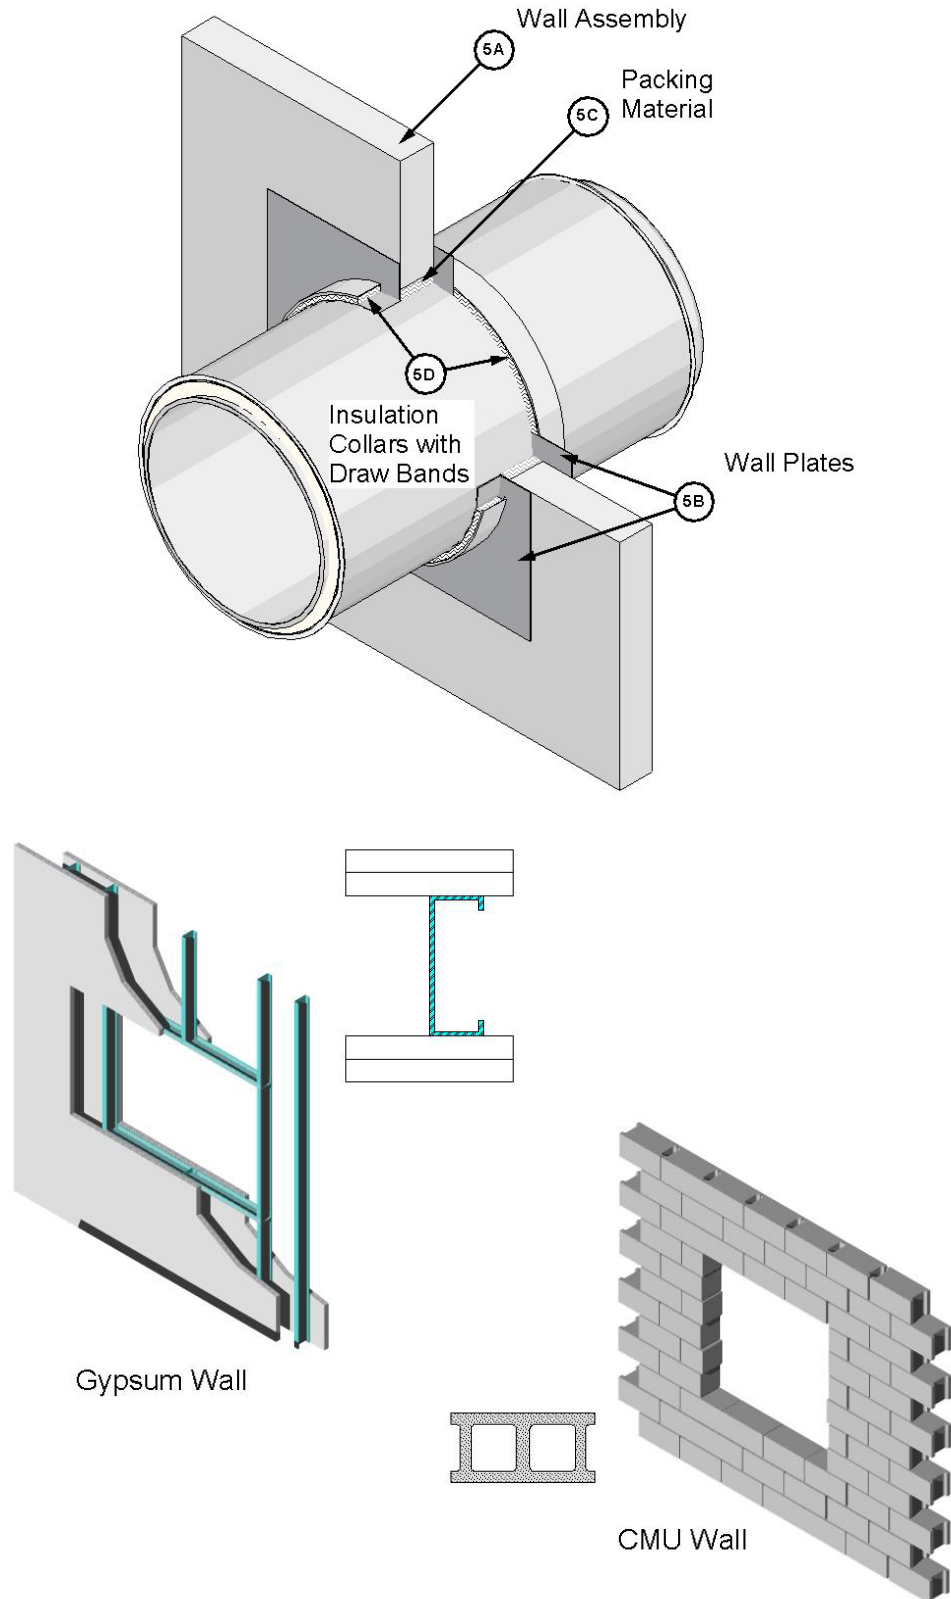

Figure 12. Wall Firestop
- 5. WALL PENETRATION FIRESTOP:** When required to penetrate a fire-rated wall assembly, install firestop system described in Items 5A to 5D (see Figure 12).